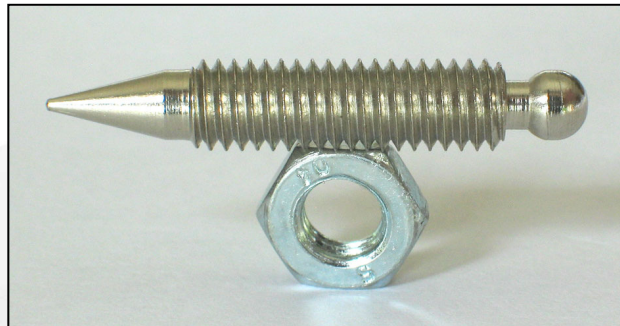
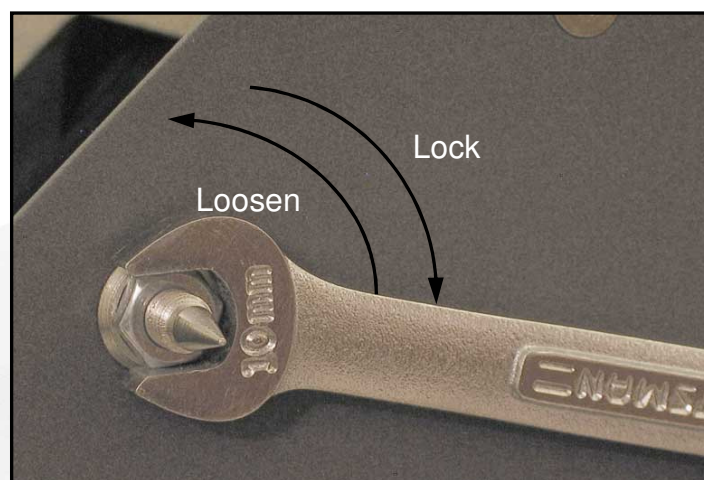

Figure 5. Double Ended Spike and Nut
Figure 6. Adjusting a Spike Nut
The base of the Carbon Mk IV is fitted with four spikes. These are double ended as shown in figure 5 and are locked in position with a nut. You will need an open ended 10mm spanner to adjust them - figure 6.
movement you saw at the base of the cabinet. It is best to have an assistant to help hold the loudspeaker. Stand the loudspeaker back up and repeat the process until it is sitting squarely on its spikes. Lean the loudspeaker to the left again and lock the nut on the right front spike (figure 6), taking care not to change the spike's setting. Do not use excessive force when locking the nut as this may damage the loudspeaker base plate.
2. **If the loudspeaker can be rocked in the 2 o'clock to 8 o'clock direction**, lean the loudspeaker to the left and screw **in** the right hand front spike by the amount of movement you saw at the base of the cabinet. It is best to have an assistant to help hold the loudspeaker. Stand the loudspeaker back up and repeat the process until it is sitting squarely on its spikes. Lean the loudspeaker to the left again and lock the nut on the right front spike (figure 6), taking care not to change the spike's setting. Do not use excessive force when locking the nut as this may damage the loudspeaker base plate.